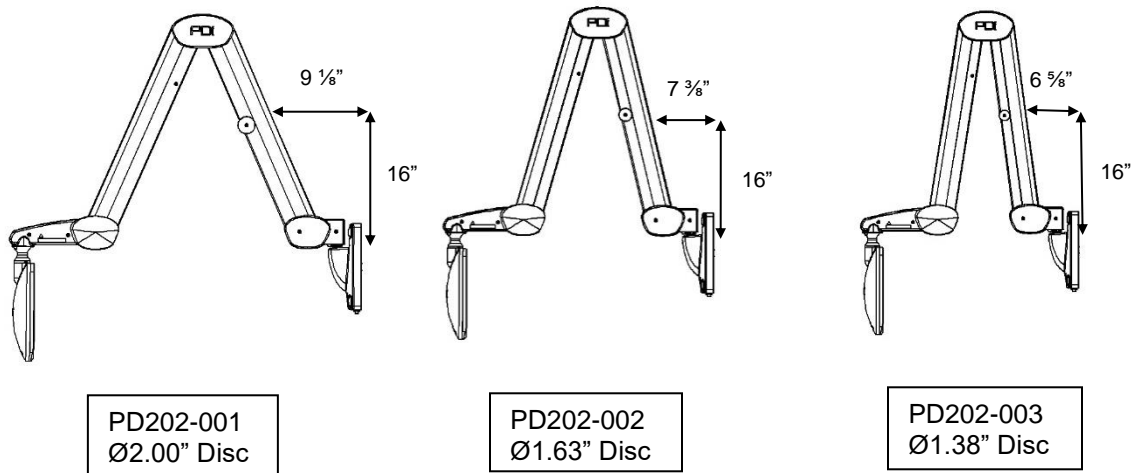

Figure 1: Clearance Options
2. Reference Figure 1 to determine which Vertical Stop is needed to achieve the desired clearance.